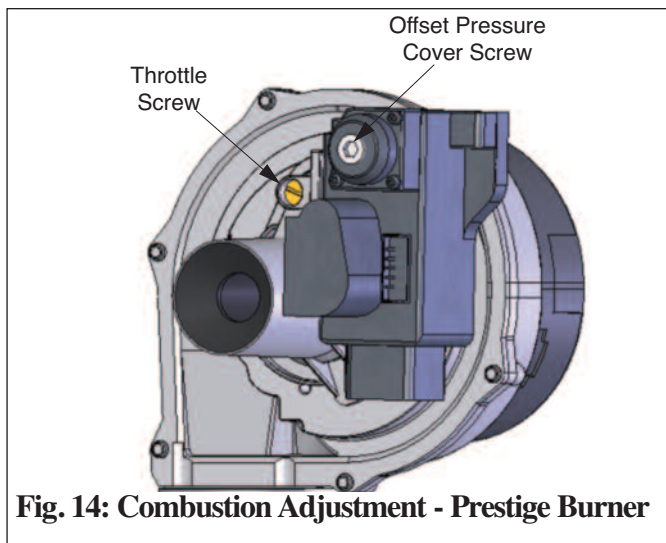

Fig. 14: Combustion Adjustment - Prestige Burner
2. If the combustion levels during high fire is outside the recommended combustion settings adjust the THROTTLE SCREW (see Fig. 14) using a flat-blade screwdriver as follows:
4. If the CO₂ combustion level during low fire is not within +/- 0.2 of the combustion level measured at high fire, remove the offset cover screw and adjust the plastic OFFSET SCREW (see Fig 14) using a T-40 Torx wrench as follows:
6. If the combustion levels during high fire are outside the recommended combustion settings adjust the THROTTLE SCREW (see Fig. 14) using a flat-blade screwdriver as follows:
8. If the CO₂ combustion level during low fire is not within +/-0.2 of the combustion level measured at high fire, remove the offset cover screw and adjust the plastic **OFFSET SCREW** (see Fig. 14) using a T-40 Torx wrench as follows: